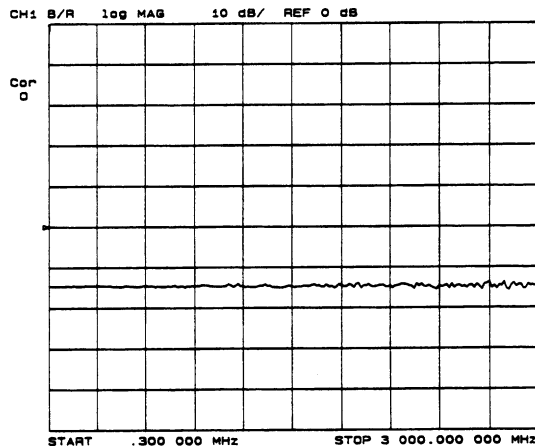

Figure 5-3. Response Calibration with a Fresnel Reflection
- 18** Examine the response on the display and compare it to Figure 5-3. It should be a flat line (approximately) around -14.6 dB (optical return loss). Again, -14.6 dB is the return loss of the Fresnel reflection, which is related to the fiber's index of refraction and air at the coupler port. The percentage of reflected optical power is calculated as:
If the response is not similar to the one in Figure 5-3, check the connections, reclean the connectors, and repeat the procedure.